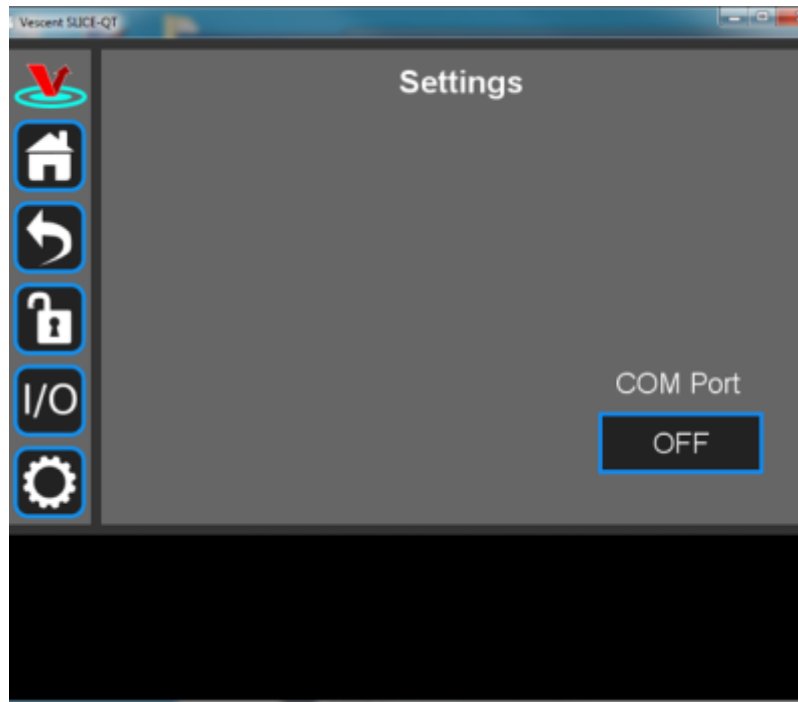

Fig. 43: Settings screen when viewed by GUI
6. On the SLICE-QTC GUI, click on the Settings icon  to get to the window shown in figure 43.